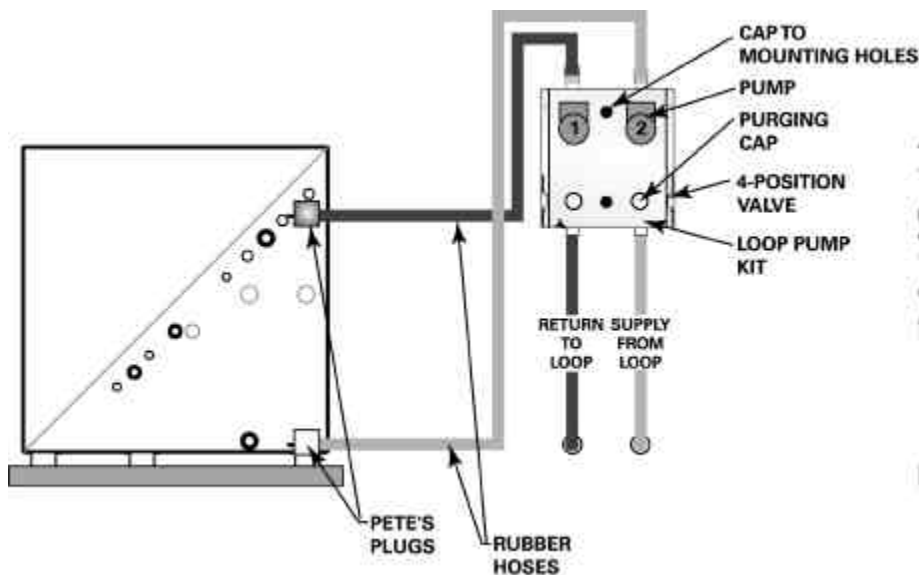

Figure 7: Loop pump kit installation
(1) Connect the supply and return hoses to the water-inlet (from supply) and water-outlet (to return) of the unit. *The rubber gaskets for the water-in and water-out connections are located in the control box. These gaskets require field installation prior to connecting the water piping to the unit.*
(2) Hand tighten the 1" FPT brass swivel quick connections to the 1" MPT adapter with P/T ports. Using a wrench, tighten the adapter approximately 1/2 additional turn. *Care must be taken to avoid overtightening as to not dislodge the snap ring.*
(3) The water lines should be routed not to interfere with access to the unit. The use of a short length of high pressure hose with the swivel fitting may simplify the connections and prevent vibration. Pressure/Temperature (P/T) ports are required for troubleshooting the hydronic side of the unit. *Extreme care should be taken by the installing contractor to prevent dirt or other foreign matter from entering the pipes or piping components during construction. Pipes should be capped until they are in place and ready to be connected to the system.*
(4) Install the Trane loop pump module. See installation manual WSHPC-IN-5 or 72-9006-03 for instructions. If the unit *does not* contain a Trane loop pump module, two ball valves must be installed between the unit and the loop's water pump to isolate the unit from the system's water loop during maintenance and emergency situations. *See Figure 7.*